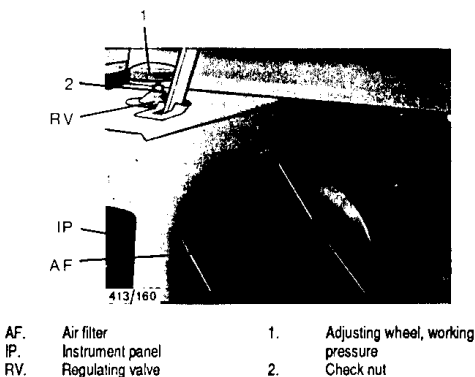

Fig. 8. Regulating valve and other components
1. Start and warm up the engine; load the compressor but do not open the outlet valves. Check the unloading pressure which should be approx. 0.7-1.3 bar (10-19 psi) above the normal working pressure. If the receiver pressure is less, loosen check nut (2-Fig. 8) and turn adjusting wheel (1-Fig. 8) clockwise, a fraction of a turn at a time, until the right unloading pressure is obtained.
1. Loosen check nut (2-Fig. 8) and fully screw down the adjusting wheel (1-Fig. 8).
3. Screw the adjusting wheel (1-Fig. 8) of the regulating valve gradually down while checking the working pressure. If the valve has not opened at the pressure specified in section 6.3, it must be adjusted.